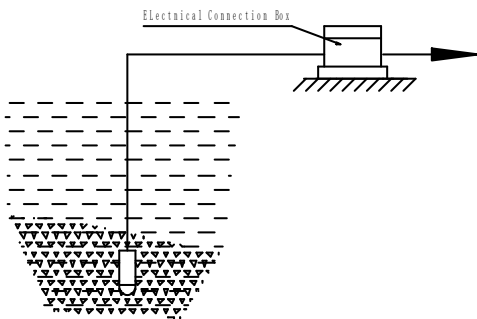

Figure5 Installation in pebbly water
- b) See Figure 5, It is better to cover the transmitter lightly into clear sandy or pebbly water.